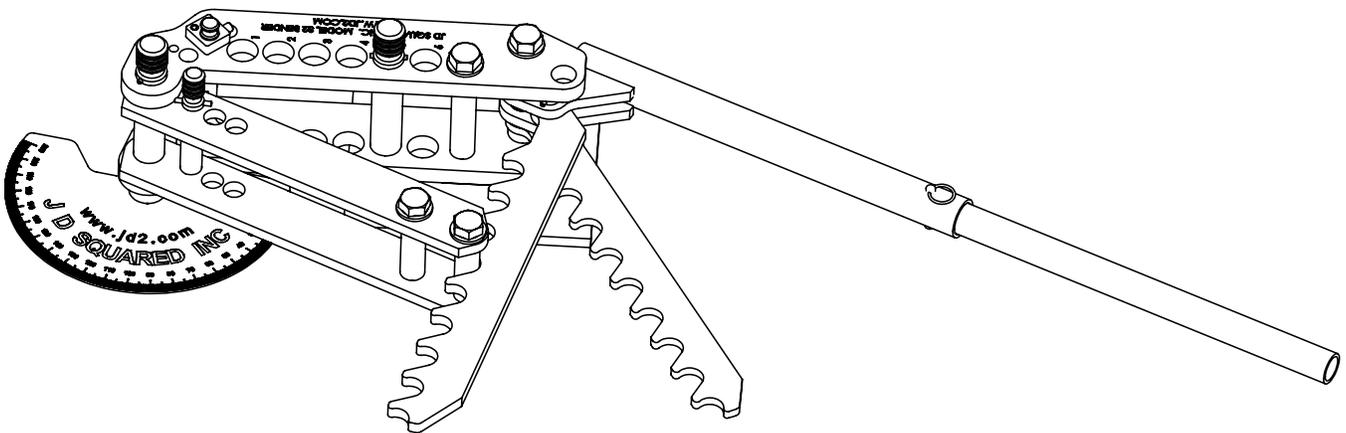

Figure 4 - Completed bender without die set installed
4) Remove all pins from the Drive Link assembly. With the word 'TOP' facing up, Install the Drive Link assembly into the Frame assembly using a 1 1/4" Frame Pin. See figure 4. The bender is now assembled and ready for the die set to be installed.